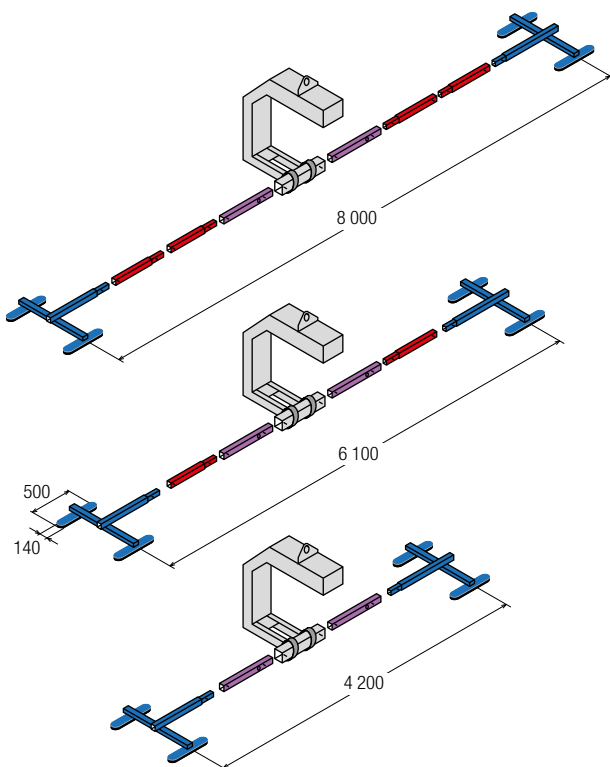
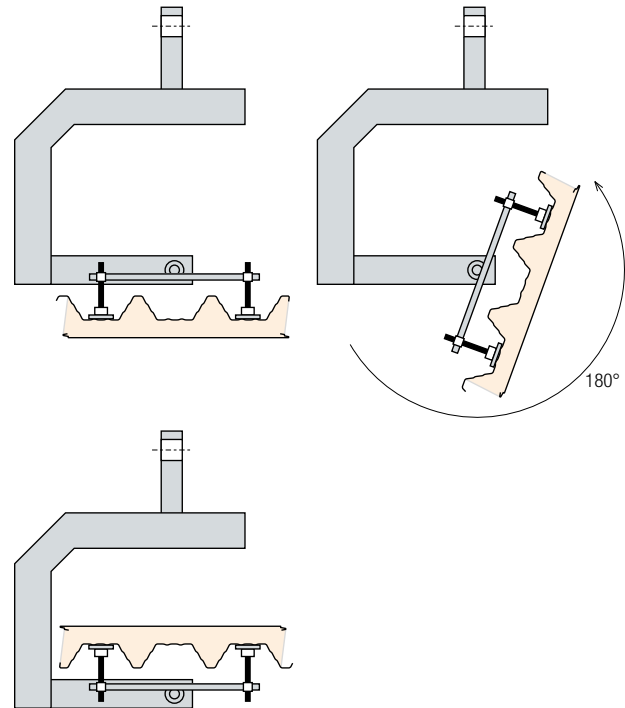

Fig. 4.3.2 Device length options
Fig. 4.3.3 Rotation of panels around the longitudinal axis
- RotaBoy is a vacuum handling device with the possibility of turning panel (arm) around its sub-axis by 180° (Fig. 4.3.3). The device is compact for easy transport. It is released from the frame and folded before use according to the required panel length (Fig. 4.3.2). An accessory package includes a pedestal and supports. Precise instructions for working with the device will be familiarized with the transfer of equipment.